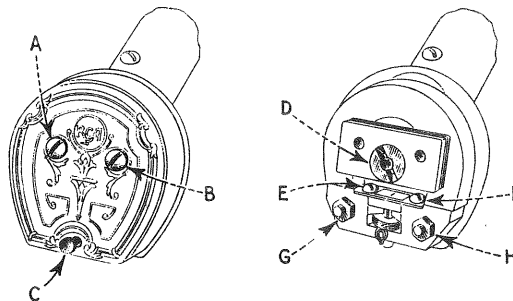

Figure 24—Details of the phonograph pick-up
- (e) Remove needle holder screw C, Figure 24, and two machine screws A, B, holding pick-up cover. Remove cover.
- (f) Remove nut D, Figure 24, that holds the magnet bracket and fibre spacers. Mark the magnet poles and pole pieces so that the magnet may be replaced with correct polarity.